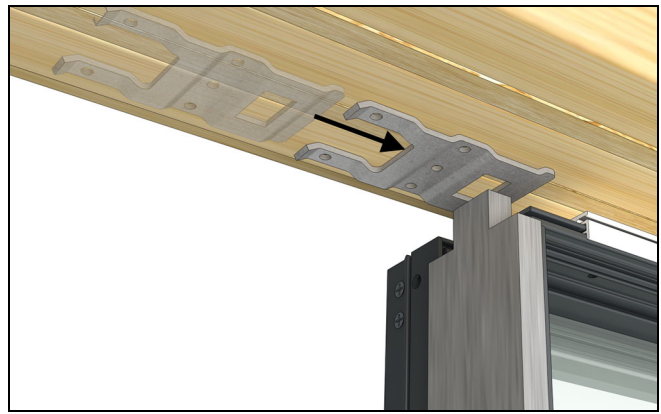

Figure 16
7. Slide the top mull bracket so that it fits over the tab on the mull steel. See Figure 16.